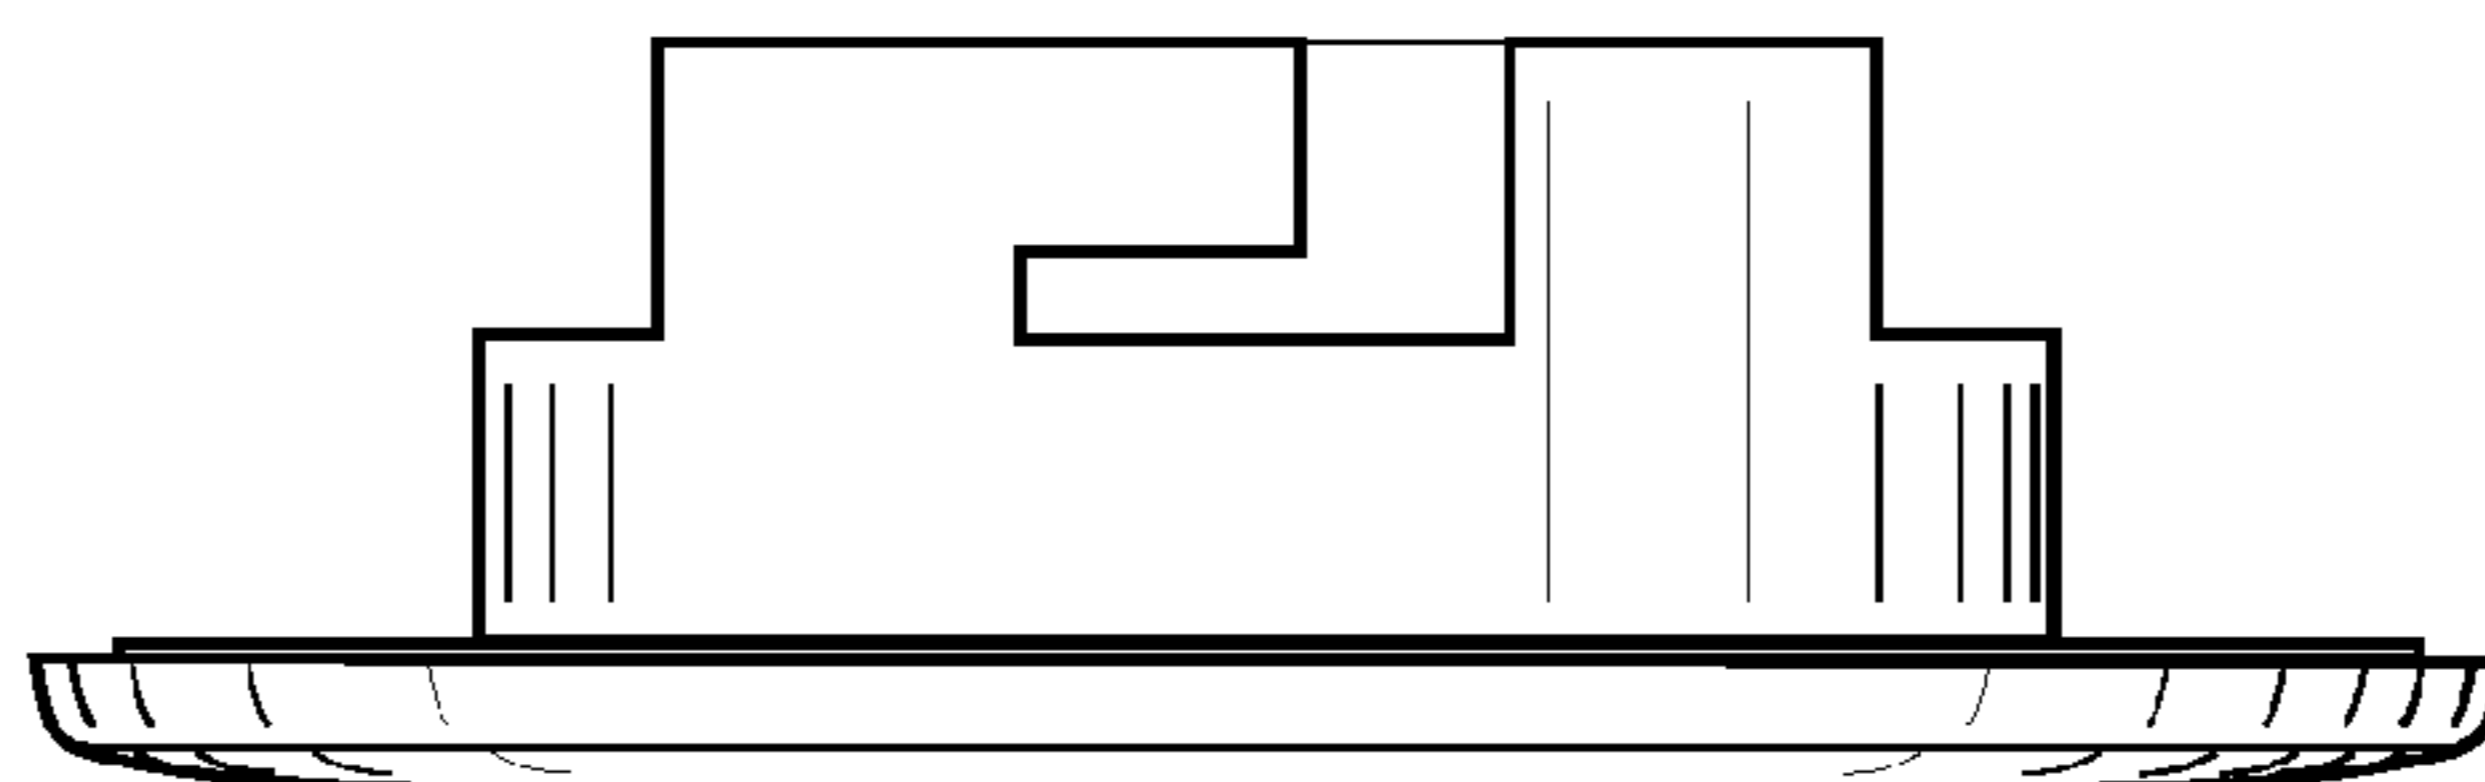

FIG. 14
- FIG. 14 is a side view showing one side of the trim; and,